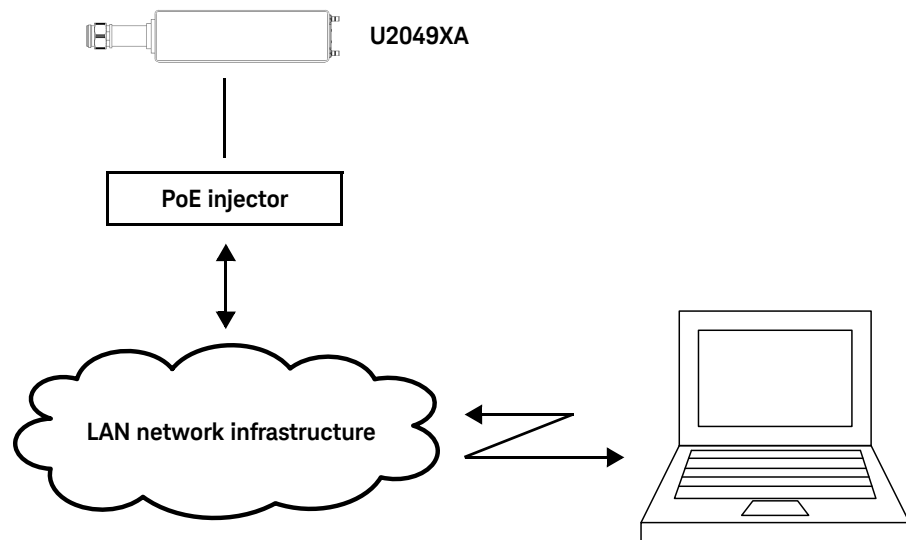

Figure 1-5 Connect the U2049XA via Dynamic IP
- 1 Set up the connection as shown in **Figure 1-5**.